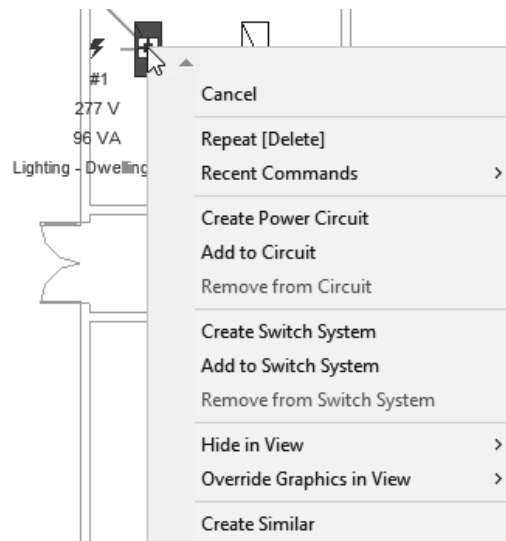

Figure 2–57
2. Right-click on the control and look at the variety of options you can use. Figure 2–57 shows a partial menu.